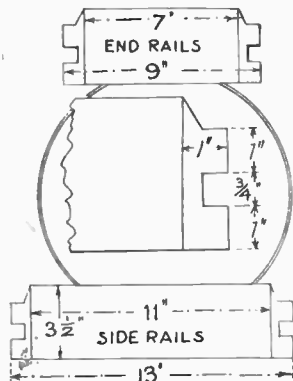
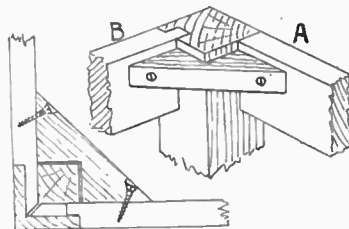

Fig. 3—Enlarged detail of the joints
Fig. 2—How the rails are jointed
All four rails are mortised and tenoned into the tops of the legs in the manner shown in Fig. 2, and in the detail Fig. 3.
In cutting the tenons on the rails, note that they are cut on the inside so that the face of the rail lies flush with the outer face of each leg. The corner plan in Fig. 2 clearly indicates this.
the tops of the rails where the tenons occur. For these, see the two diagrams (A) and (B) in Fig. 5. The latter method is the stronger of the two, as it holds the whole width of the rail in the groove shown. The extreme ends of the tenons must be cut to an angle of 45 degrees, so that they meet together in the middle of the leg (see plan at Fig. 2).
When the glue has hardened, the four angle stiffeners shown in Fig. 2 are cut and glued and screwed in. The method of marking out and cutting the stiffeners from a length of wood 20ins. long by 1½ins. by 1in. thick is shown in Fig. 6, while Fig. 2 again shows them in place round the legs.